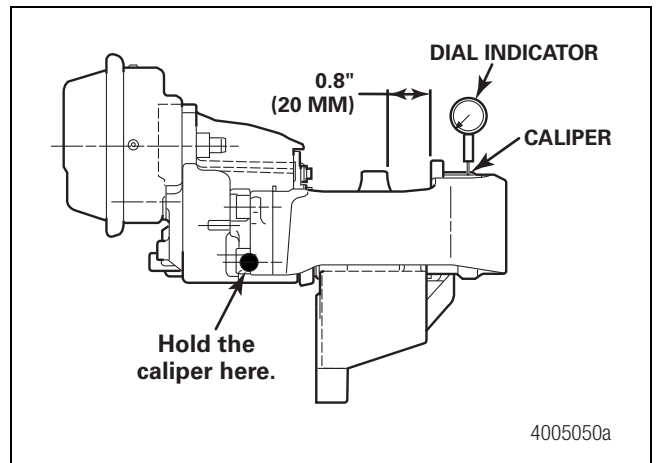
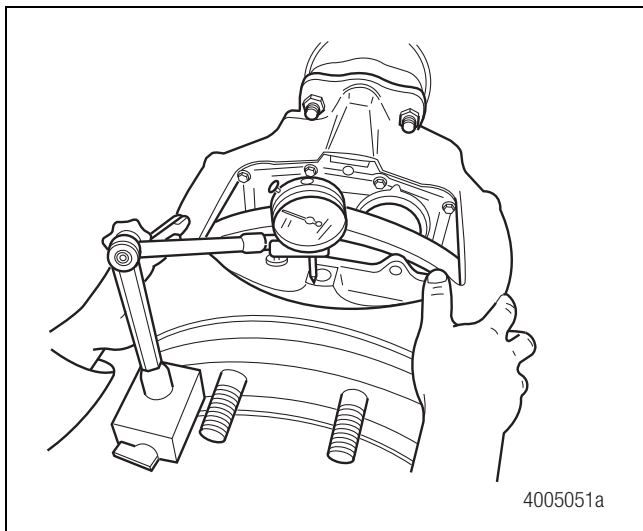

Figure 4.16
Figure 4.17
1. Attach a dial indicator onto the vehicle hub and set it against the caliper. Figure 4.16.
3. Push the brake down by hand as far as possible and set the gauge to ZERO. Figure 4.16 and Figure 4.17.